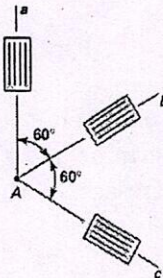

Figure 4
Q.5 The strain readings from a 60° rosette at point A shown in Figure 4 are $\epsilon_a = 900\mu$, $\epsilon_b = 340\mu$, and $\epsilon_c = -80\mu$. Find the magnitude and directions of the principal strains.